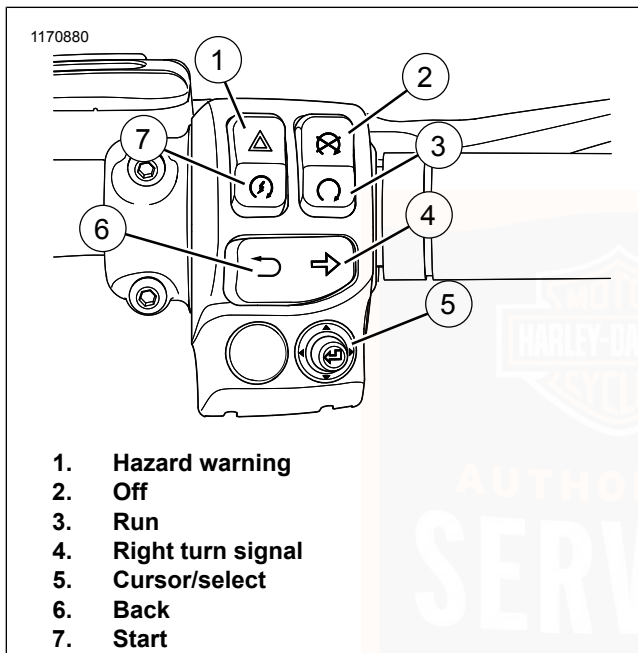

Figure 46. Right Hand Switch Module (Typical)
2. See Figure 46. With security fob present, set the OFF/RUN switch to RUN.